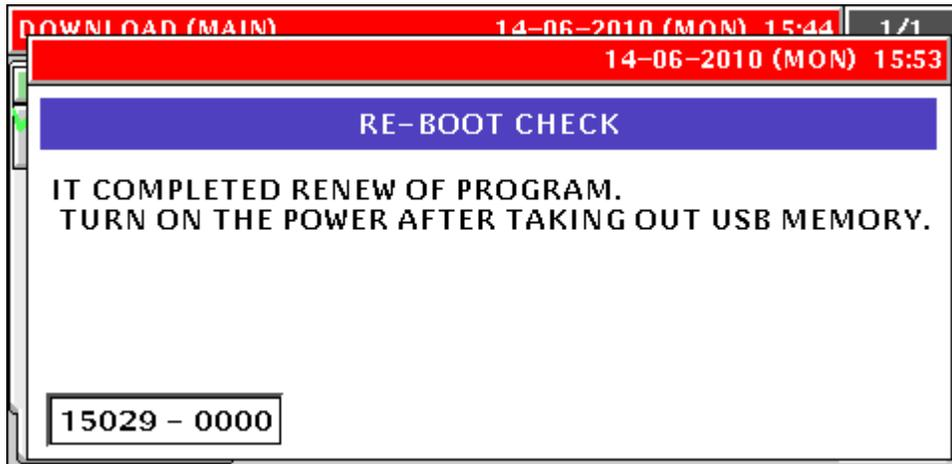

Figure 1.9. Firmware Download Is Complete
21. When message 15029-0000 is displayed the firmware download is complete -- power the scale off. See Figure 1.9.